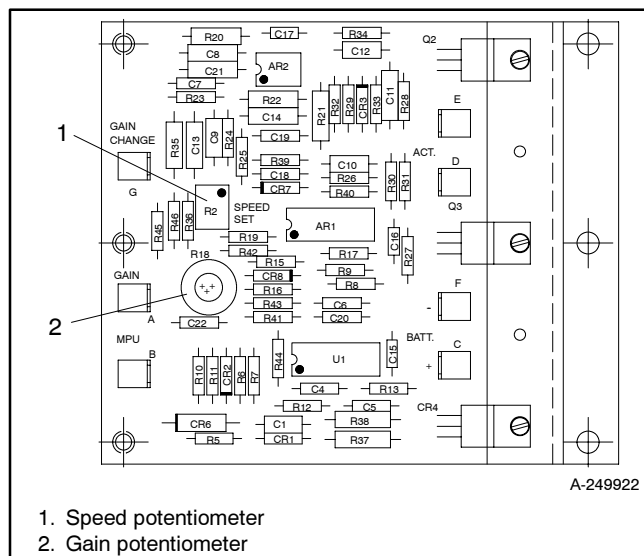

Figure 5-62 Governor Adjustment
3. Adjust the electronic **speed** potentiometer to obtain a full load engine speed of 1800 rpm (60 Hz). See Figure 5-62.